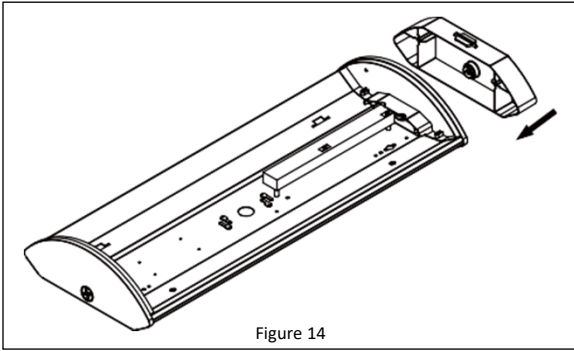

Figure 14
2. Align the sensor endcap with the fixture endcap and pass the wires from the sensor endcap into the fixture. **See Figure 14.**